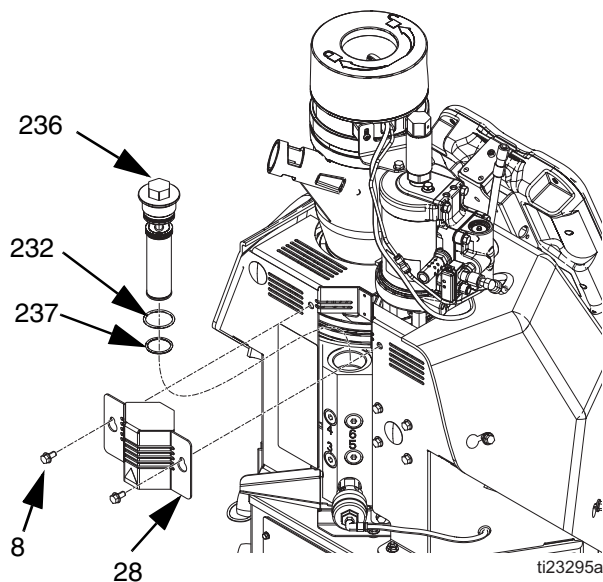

FIG. 25
4. Loosen two screws (8) then slide the small metal shroud (28) on the back of the system up to remove. See FIG. 25.
5. Use a 1 in. socket to unscrew outlet filter (236).
6. Insert allen wrench through the outlet filter cap to lift outlet filter (236) out of the system.
8. Place o-rings (232, 237) provided with new outlet filter onto new outlet filter (236).
10. Install small metal shroud (28) over outlet filter then tighten two screws (8).